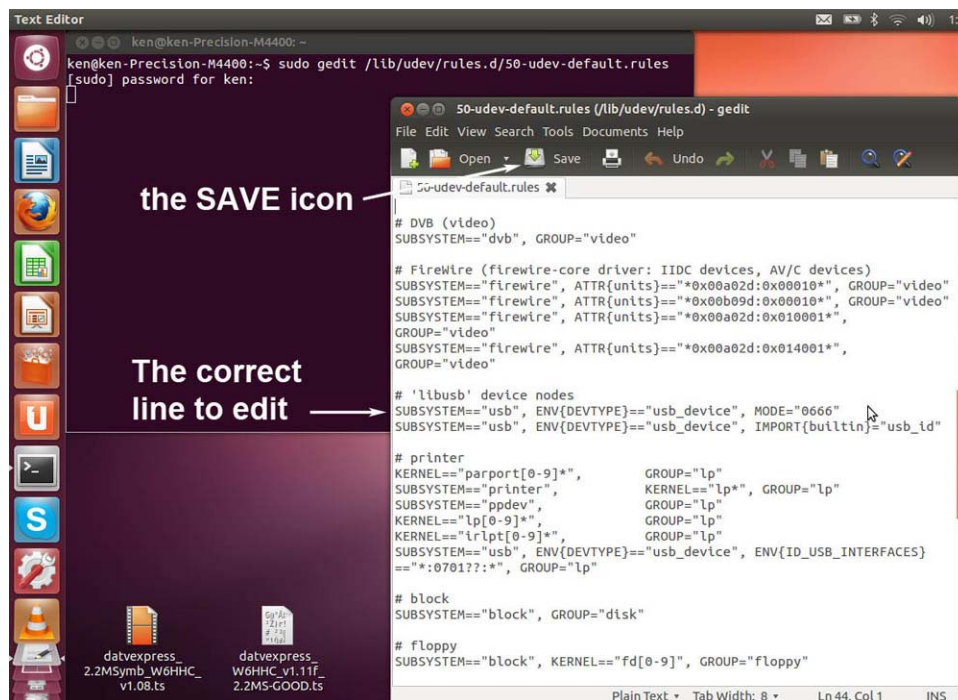

Figure 12 – The correct line to edit is shown in the GEDIT window
- Now edit the **MODE** values to `SUBSYSTEM=="usb", ENV{DEVTYPE}=="usb_device", MODE="0666"`. See **Figure 12**.
- Save the 50-udev-default.rules file after the edit using the SAVE icon in Figure 12